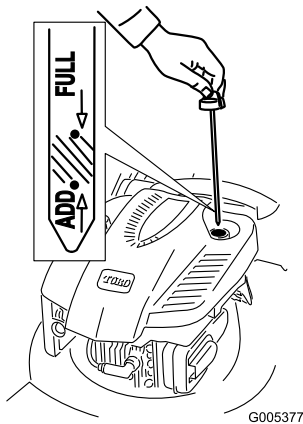

Figure 8
1. Remove the dipstick (Figure 8).
2. **Slowly** pour oil into the oil fill tube until the oil level reaches the **Full** mark on the dipstick (Figure 8). **Do not overfill.** (Max. fill: 0.59 l, type: SAE 30 detergent oil with an API service classification of SF, SG, SH, SJ, SL, or higher.)